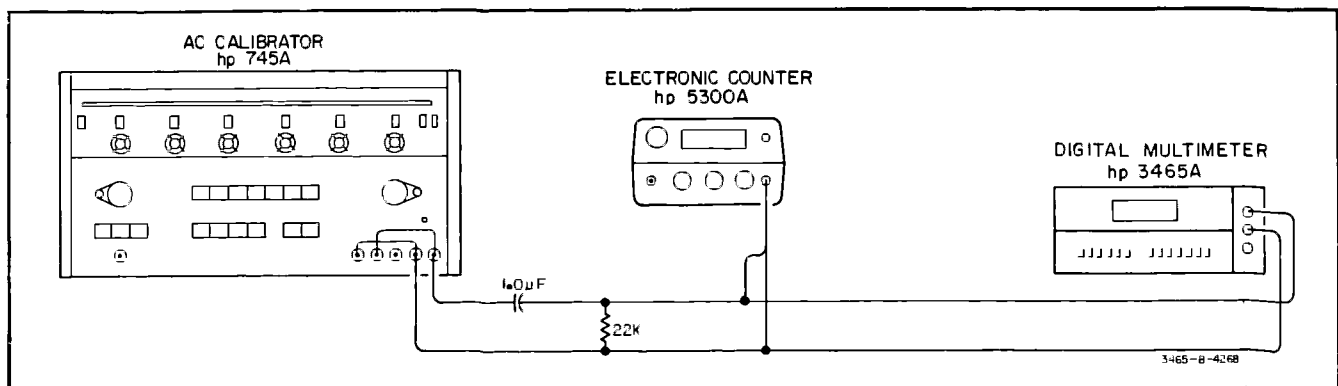

Figure 5-4. AC Normal-Mode Rejection Test
- a. Connect the test equipment as shown in Figure 5-4. Do not connect the Multimeter at this time.